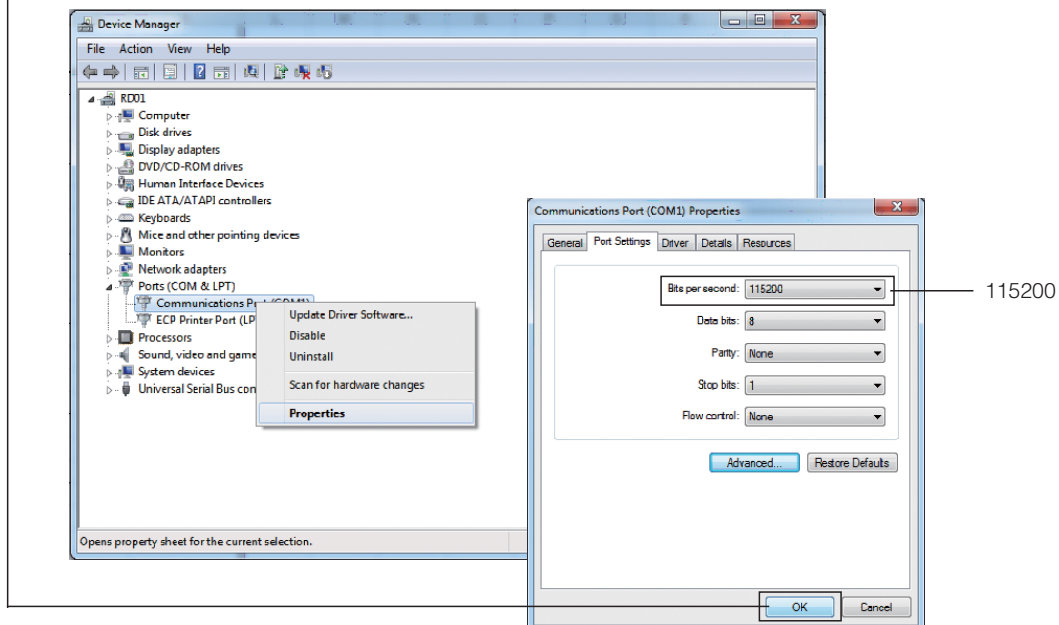

Fig. 5
7. Make the port (COMx) setting. (Fig. 5)
- a. Access the device manager. (Fig. 5)
- b. Right click the communication port (COMx) of the port (COM and LPT) to open the property. (Fig. 5)
- c. Using the port setting function, set the Bit/second to "115200". (Fig. 5)
8. Click [OK]. (Fig. 5)